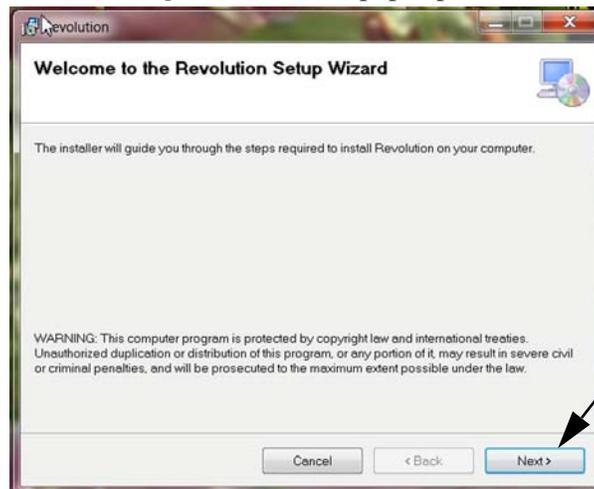

Figure 4-4. Welcome Screen
3. The *Welcome to the Revolution Setup Wizard* screen pops up, click Next (Figure 4-4).